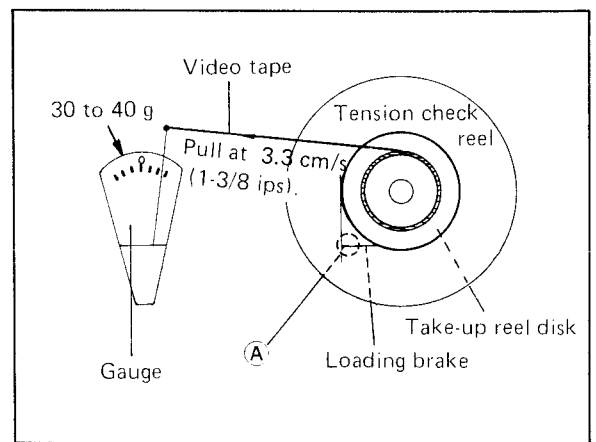

Fig. 5-9 Measurement of take-up loading tension
5. Measure the take-up loading tension by pulling the video tape, and reading a tension gauge as shown in Fig. 5-9. The measured loading tension should be between 30 and 40 grams.